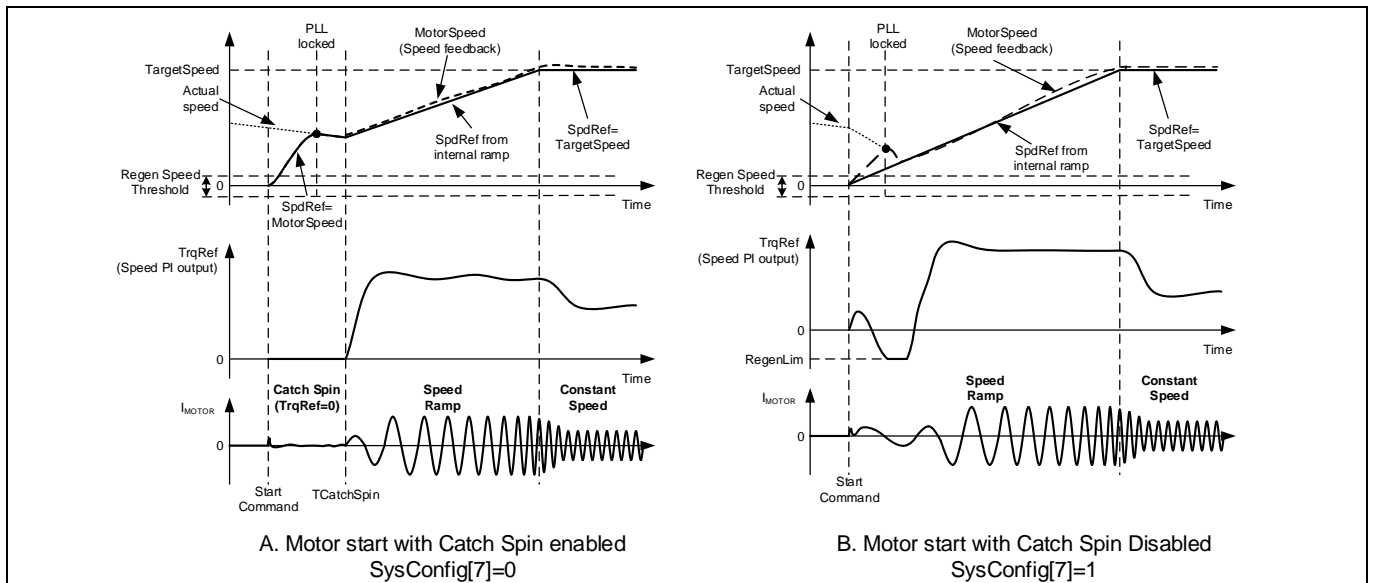

Figure 18 Forward Catch Spin - Motor start with/without catch spin
If the motor is spinning in the same direction as desired, then the catch spin sequence is termed as ‘Forward Catch Spin’. Figure 18 (A) shows an example for ‘Forward Catch Spin’. In this example, at the start command the motor is already spinning (in the desired direction). During the catch spin time, no motoring current is injected. After the catch spin time has elapsed, assuming the flux PLL locks to the actual motor speed, the motor speed at that instance becomes initial speed reference and starting point for speed ramp reference. The motor continues to accelerate or decelerate, following the speed ramp reference to reach the set target speed.
If catch spin is disabled, normal speed control starts immediately after the start command, without waiting for PLL to be locked. Usually the control would still be able to start a spinning motor, but motor speed may not increase/decrease seamlessly. As shown in Figure 18 (B), after the start command, the actual motor speed is higher than speed reference (SpdRef). Hence, the motor is decelerated (using regenerative braking) to force the motor to follow the speed reference (SpdRef). As the speed of the motor is higher than Regen Speed Threshold (RegSpdThr), the negative torque injected in the motor to achieve deceleration is limited by the value in RegenLim parameter. Once the motor speed matches the speed reference, the motor starts accelerating, following the speed ramp reference to reach the set target speed.